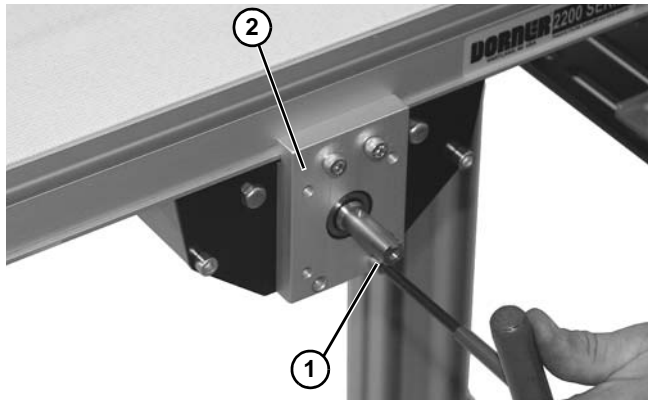
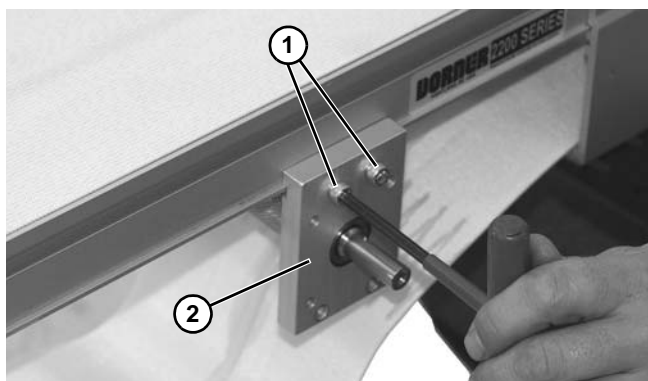

Figure 114
Figure 116
- Loosen one socket head screw (**Figure 114, item 1**) from each side of mounting block (**Figure 114, item 2**).
- Loosen two socket head screws (**Figure 116, item 1**) from each side of mounting block (**Figure 116, item 2**).
- Tighten socket head screws (**Figure 114, item 1**) and (**Figure 116, item 1**) to 60 in-lb (7 Nm).